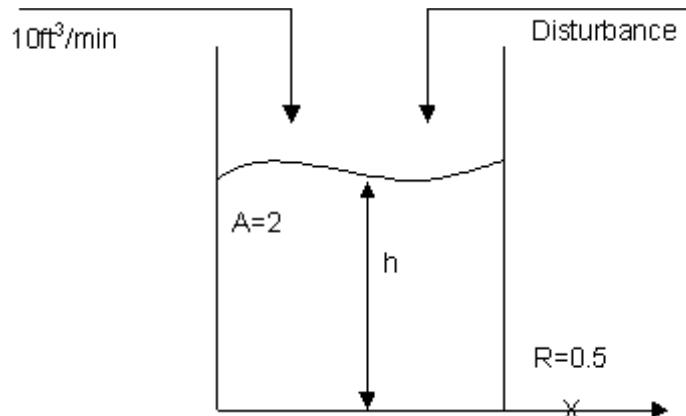

Figure 1
1. A Liquid process shown in figure 1 is operating at steady state condition, when the following disturbances occur at time  $t=0$ ,  $2\text{ft}^3$  of water is added suddenly to the tank. At  $t=1$ ,  $3\text{ft}^3$  of water is added suddenly to the tank. Sketch the response of the tank in terms of level versus time and determine the level at  $t=0$ ,  $0.5$ ,  $1.0$ , and  $1.5$ . Time constant of the process is 1 min. [16]